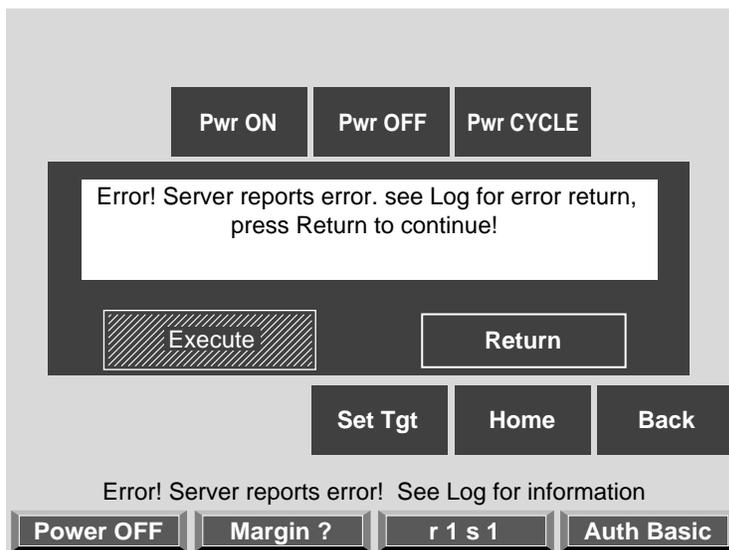

Figure 2-15 Command Error/Timeout Window
7. If the command you enter is not executed successfully, a Command Error/Timeout window appears, which shows the error as shown in Figure 2-15. Press **Return** and then return to the Home window. Select **Log** to see the Log window, which displays an explanation of the error.